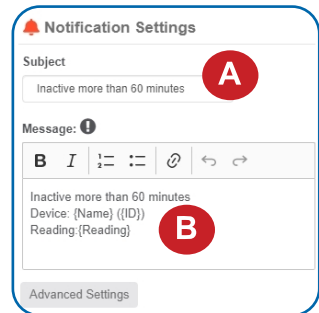

Figure 15
A. Input the subject for the notification. See Figure 15.
B. Customize the message body for the notification. See Figure 15.